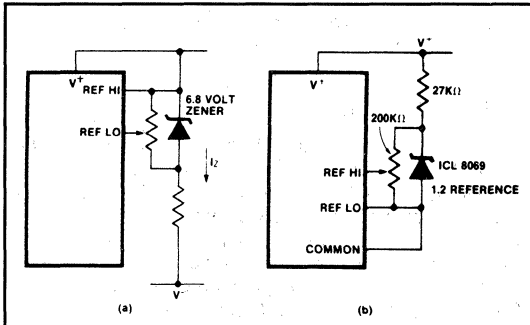

Figure 6: Using an External Reference
The limitations of the on-chip reference should also be recognized, however. The reference temperature coefficient (TC) can cause some degradation in performance. Temperature changes of 2 to 8 $^{\circ}C$ , typical for instruments, can give a scale factor error of a count or more. Also the common voltage will have a poor voltage coefficient when the total supply voltage is less than that which will cause the zener to regulate ( $< 7V$ ). These problems are eliminated if an external reference is used, as shown in Figure 6.